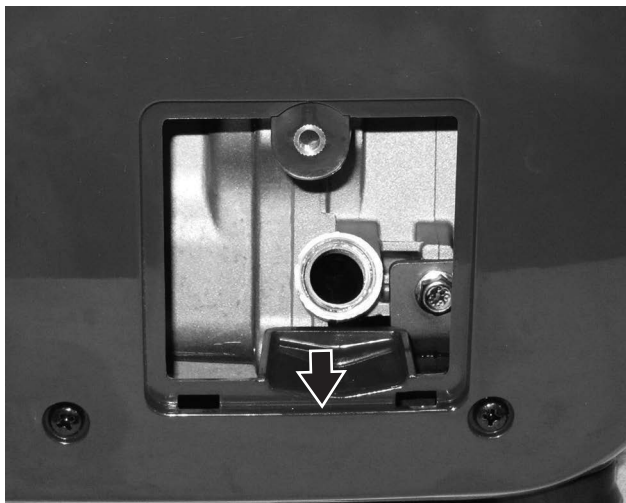

Figure 40 – Draining Engine Oil
6. Tilt the inverter so the oil drains down the trough into the container (see Figure 40).